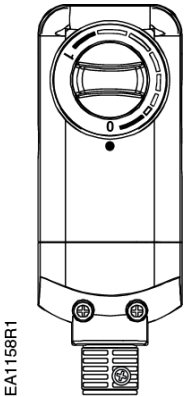

Figure 11. Position Indicator (Shown in 0 Position).
2. Turn the manual position indicator on the top of the actuator to the **0** position (Figure 11).
Check the wiring and the position indicator (Figure 11).